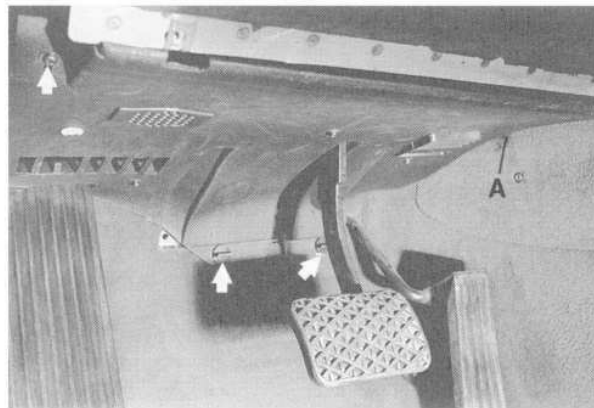

Fig. 13. Pedal cluster trim panel retaining clips (turn 90° to release) and mounting screw (arrows). Retaining hook is located at A.
2. Remove pedal cluster trim panel mounting screw and retainers. See Fig. 13.